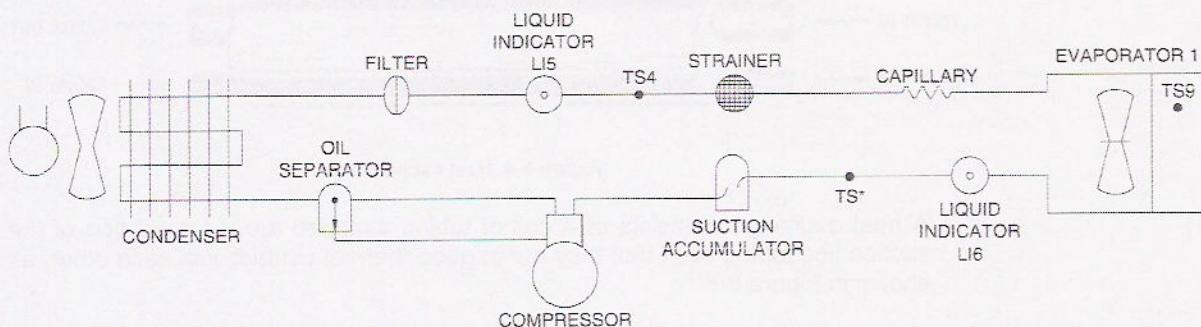

Figure 6-6. Schematic diagram of a refrigeration system.
A schematic diagram of a refrigeration system using a capillary tube control is shown in Figure 6-6. This system will be used to show the effects of adding a heat exchanger into the refrigeration system.
1. Open and close the manual valves to arrange the refrigeration system as shown in Figure 6-6. Figure A-9 in Appendix A may be used to assist in the proper set-up of the system.